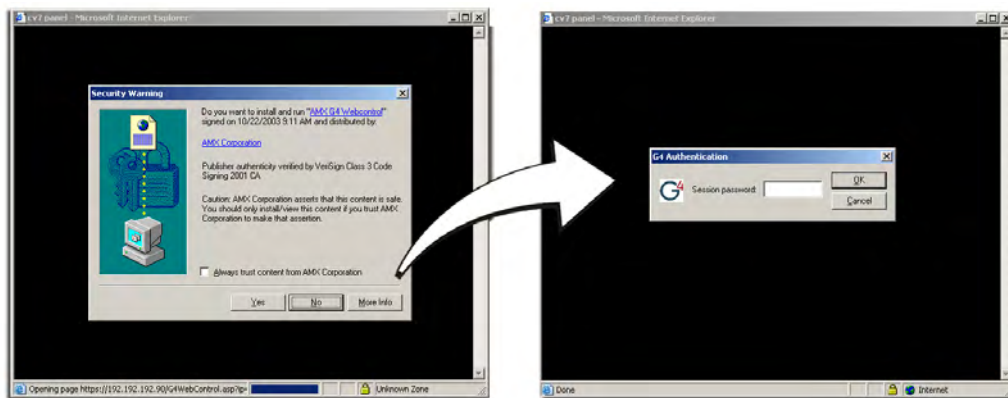

FIG. 90 WebControl VNC installation and Password entry screens
8. Click on the G4 panel name link associated with the target panel. A secondary web browser window appears on the screen (FIG. 90).
12. Enter the WebControl session password into the *Session Password* field (FIG. 90). *This password was previously entered into the Web Control Password field within the G4 Web Control page on the panel.*